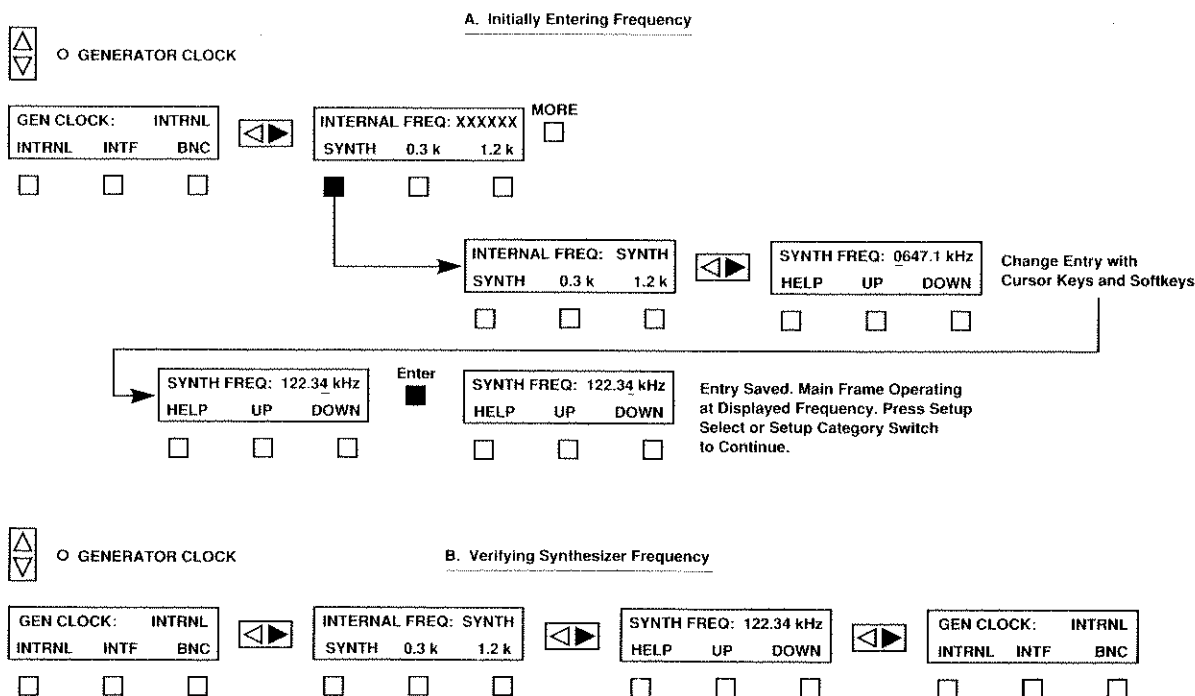

Figure 2-13
1. Select the **GENERATOR CLOCK** category, **INTERNAL FREQ** or **SYNTH FREQ** menu, as shown in Figure 2-13.